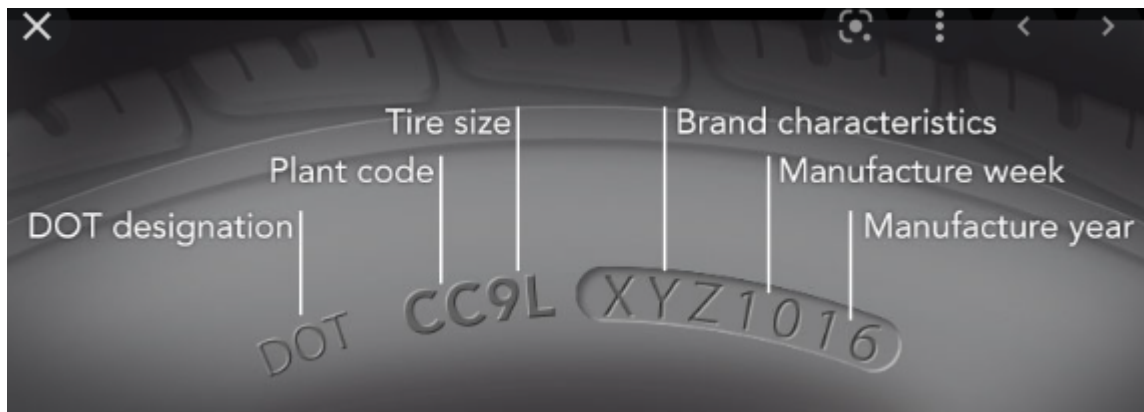

FIG. 1-2
**DOT TIRE IDENTIFICATION NUMBER** Number appearing on the sidewall of the tire near the rim required by 49 CFR Part 574.5 which identifies the manufacturer's identification mark, tire size, tire type code and date of manufacture. See Fig. 1-2.
**INTENDED OUTBOARD SIDEWALL** (1) The sidewall that contains a whitewall, bears white lettering or bears manufacturer, brand, and/or model name molding that is higher or deeper than the same molding on the other sidewall of the tire; or (2) The outward facing sidewall of an asymmetrical tire having a particular side that must always face outward when mounted on a vehicle.